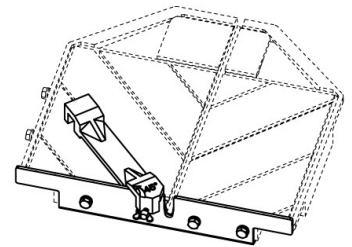

Figure 5
1. Remove threaded knob from the end of the rip guide with the horizontal groove and insert it into the other end with the diagonal groove. (See figure 5).